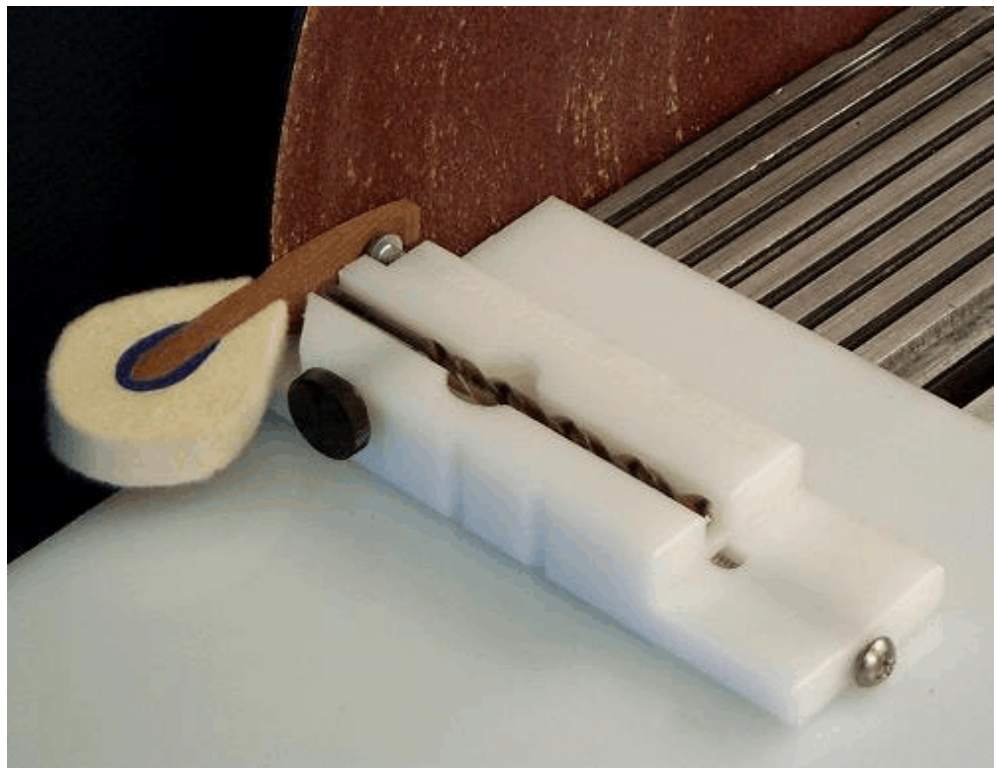

Figure 6: The Spurlock Specialty Tools hammer tail arcing jig
6. Arc tails: Use either a disc sander or stationary belt sander, with new sandpaper and a slow speed (if variable). Our arcing jig (www.spurlocktools.com/id34.htm) shown in Figure 6 gives a consistent arc on each tail, and features an adjustable radius of arc. Coarse (60 grit) sandpaper will texture the tails at the same time.